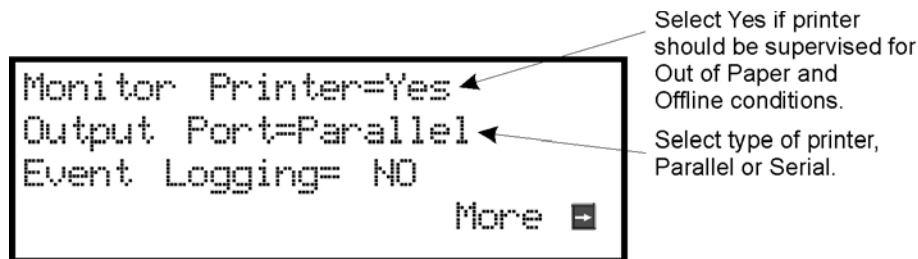

Figure 4-29 Selecting Printer and Output Port Options
5. Press ENTER to bypass the next two screens. A screen similar to the one shown in Figure 4-29 will display.